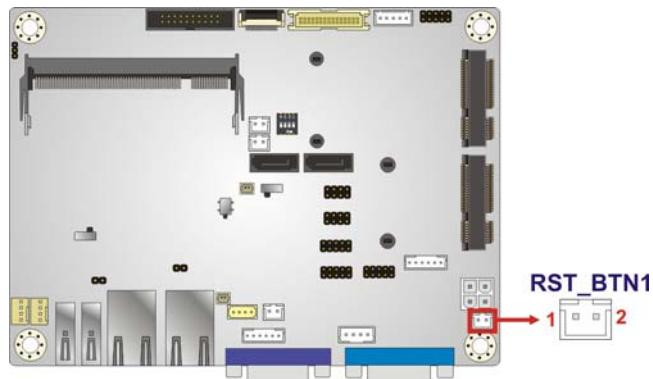

Figure 3-18: Reset Button Connector Location
**CN Location:** See Figure 3-18